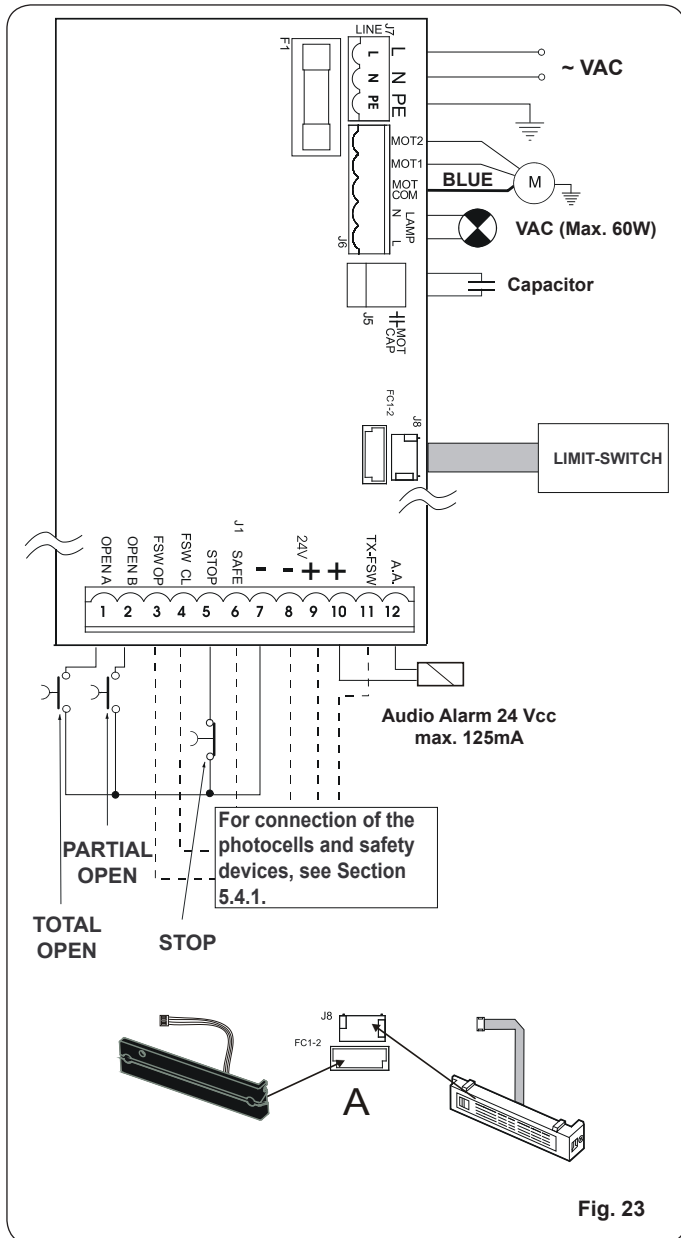

Fig. 23
5.4.2. J7 Terminal Block - Power Supply (Fig. 23)
5.4.3. J6 Terminal Block - Motors / Flashing Lamp (Fig. 23)
5.4.4. J1 Terminal Block - Accessories (Fig. 23)
Quick-fit connector for connecting the limit-switch. For connecting both the MLS magnetic limit-switch and the inductive limit-switch (Fig. 23 Ref. ①) to the operator.